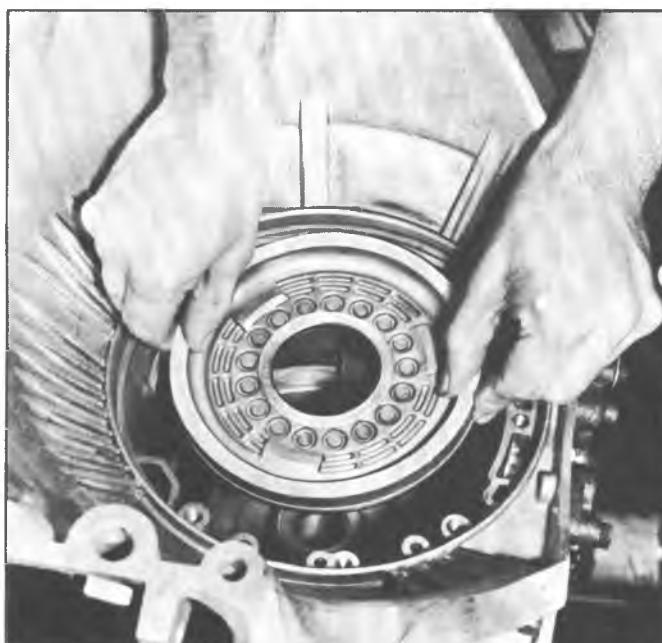

Fig. 29PG--Installing Reverse Piston
- Install the inner and outer seals on the reverse piston and, lubricating the piston and case with transmission oil, install the piston into the case (fig. 29PG). If necessary, carefully slide a feeler gauge